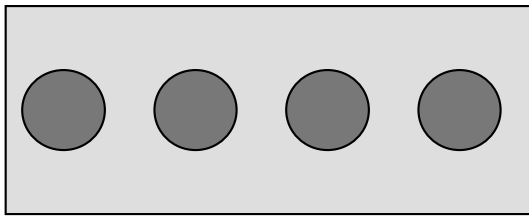
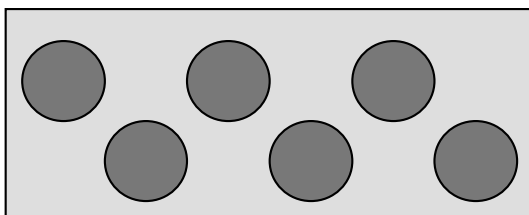

Figure 6a
Figure 6b
6.2 Prepare TDU enclosure by selecting and marking tube cable entry point locations. To best optimize TDU capacity, it is recommended to stagger tube cable entry locations if possible. See **Fig. 6a** and **Fig. 6b**.